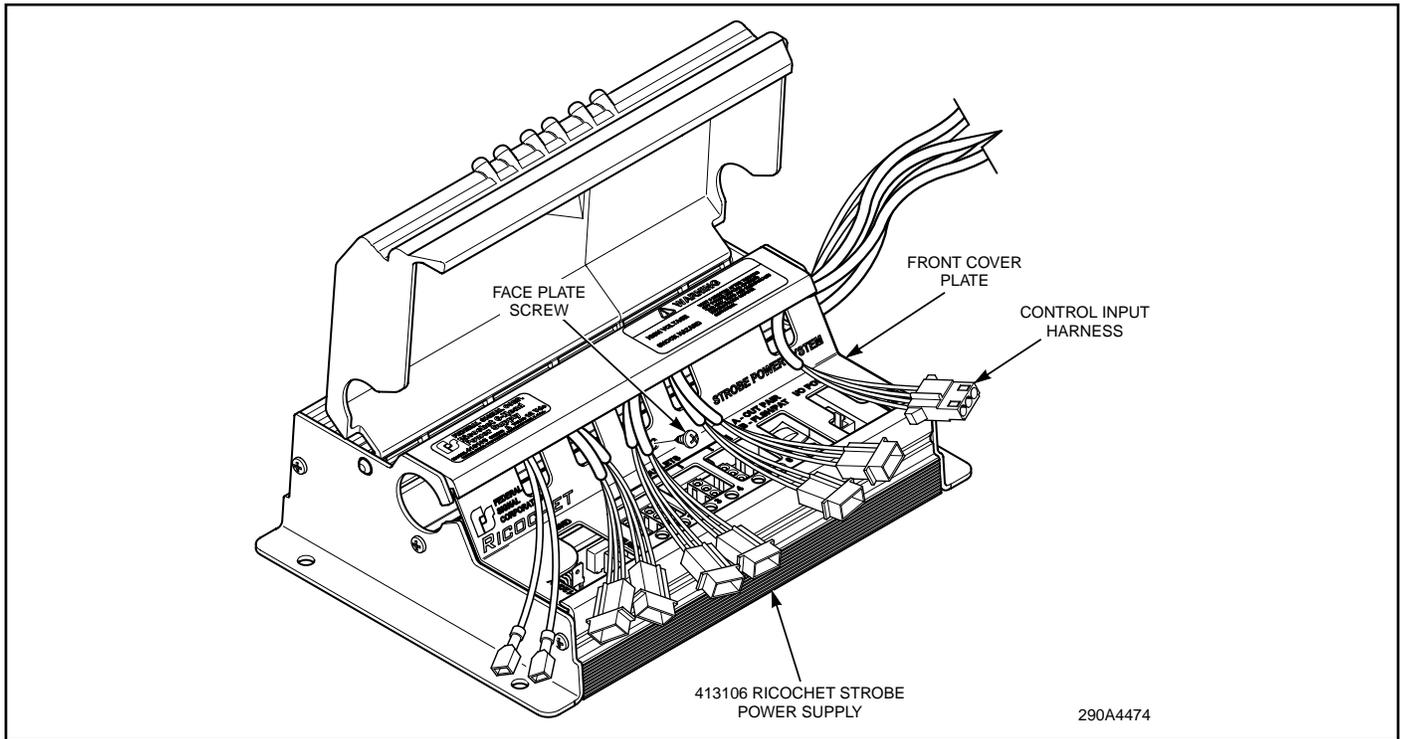

Figure 6.
13. Repeat step 10 for outlets 3&4, 5&6. See figure 6.